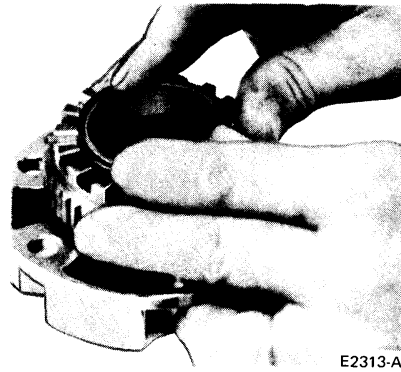

FIG. 20 Pressure Spring and Outer Clutch Gear Installation
7. Install the pressure spring and outer clutch gear. compress the pressure spring by forcing down on clutch gear and assemble snap ring. Make sure snap ring is secure in the groove of the cam. Turn actuator knob to free position. Assemble six dished washers to the six retainer screws exactly as shown (Figs. 20 and 21).